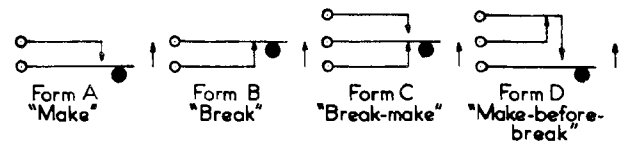
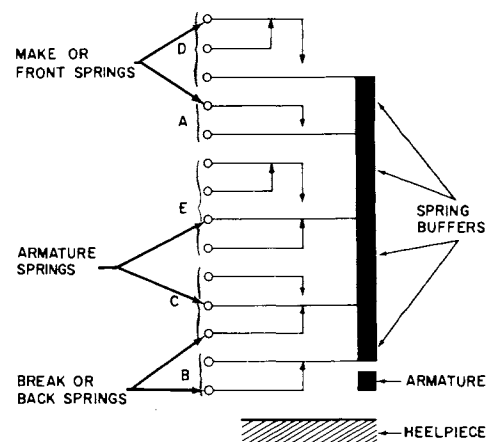

Figure 5. Basic contact forms.
Figure 6. Contact-spring standard arrangement.
- d. Spring combination (see figure 5).
**2.12 Basic contact arrangements:** The basic contact arrangements (figure 5) are shown in their normal positions. These can be arranged in almost any order or combination. Unless otherwise specified the contact arrangement will be supplied per the standard order of assembly (figure 6). The code letters "A" to "D" are used to describe the basic contact arrangement or "form". The number of forms required is indicated by a number preceding the "form" letter. They should be specified in the order in which they are assembled starting from the heelpiece. For example, the spring pile-up shown in figure 6 would be ordered "1B1C1E1A1D".